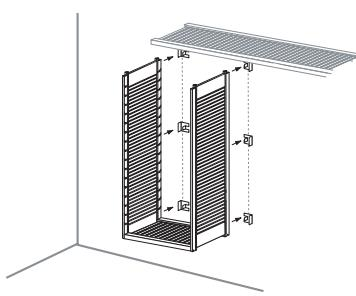

**FIG. 3.2**
3. Select (C) shelf and insert cam nuts at location (Fig. 3.2)